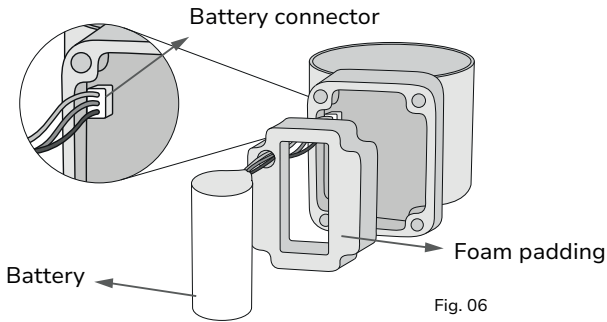

Fig. 06
3. Pull the battery out of the casing, followed by the foam padding, to access the battery connector (Fig. 06). Note the position of the wires and terminal to facilitate connection of the new battery.